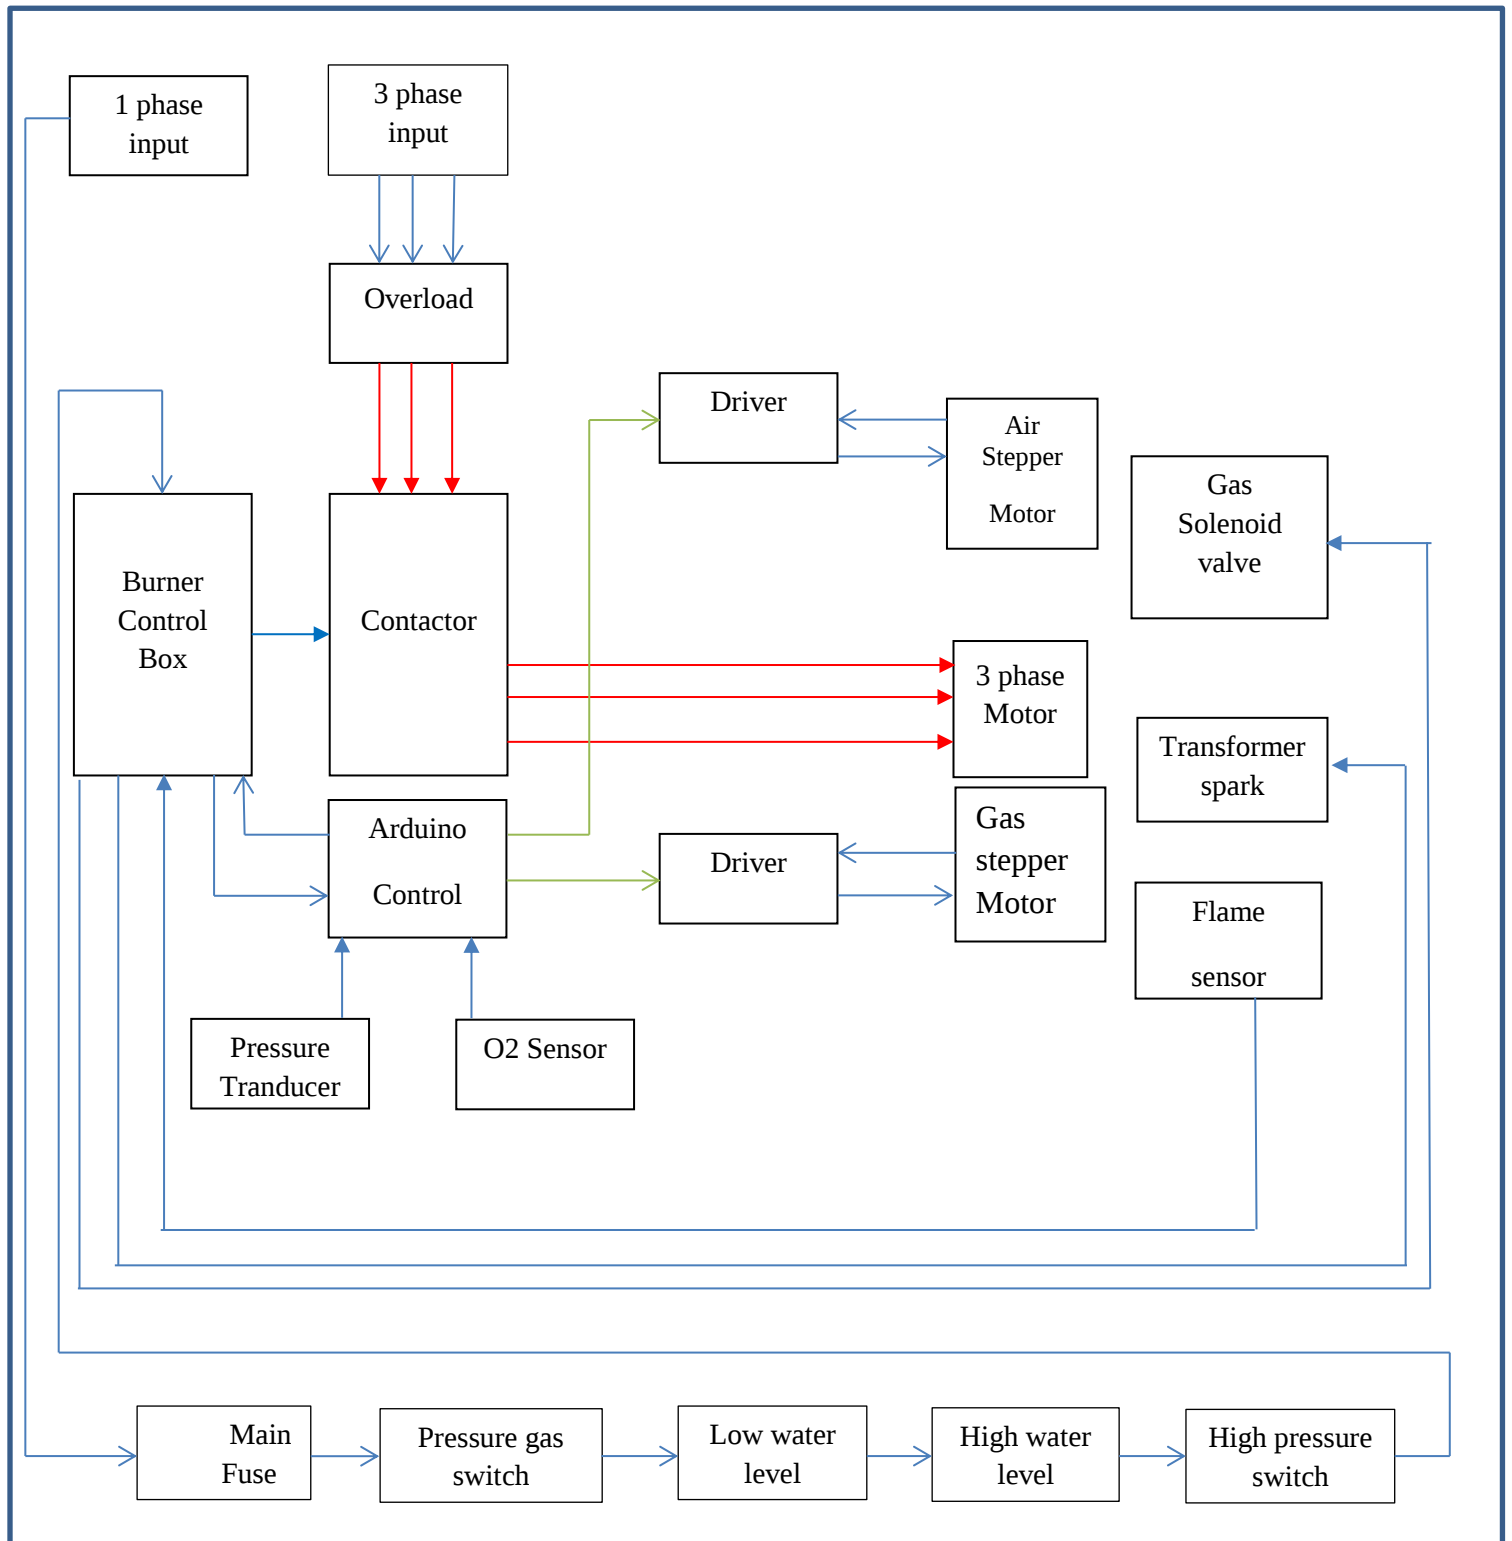

Figure 6.1 General block diagram with protections (Same as Figure 1.1 with modifications)
- Figure 6.1 shows the general block diagram with the above protections.